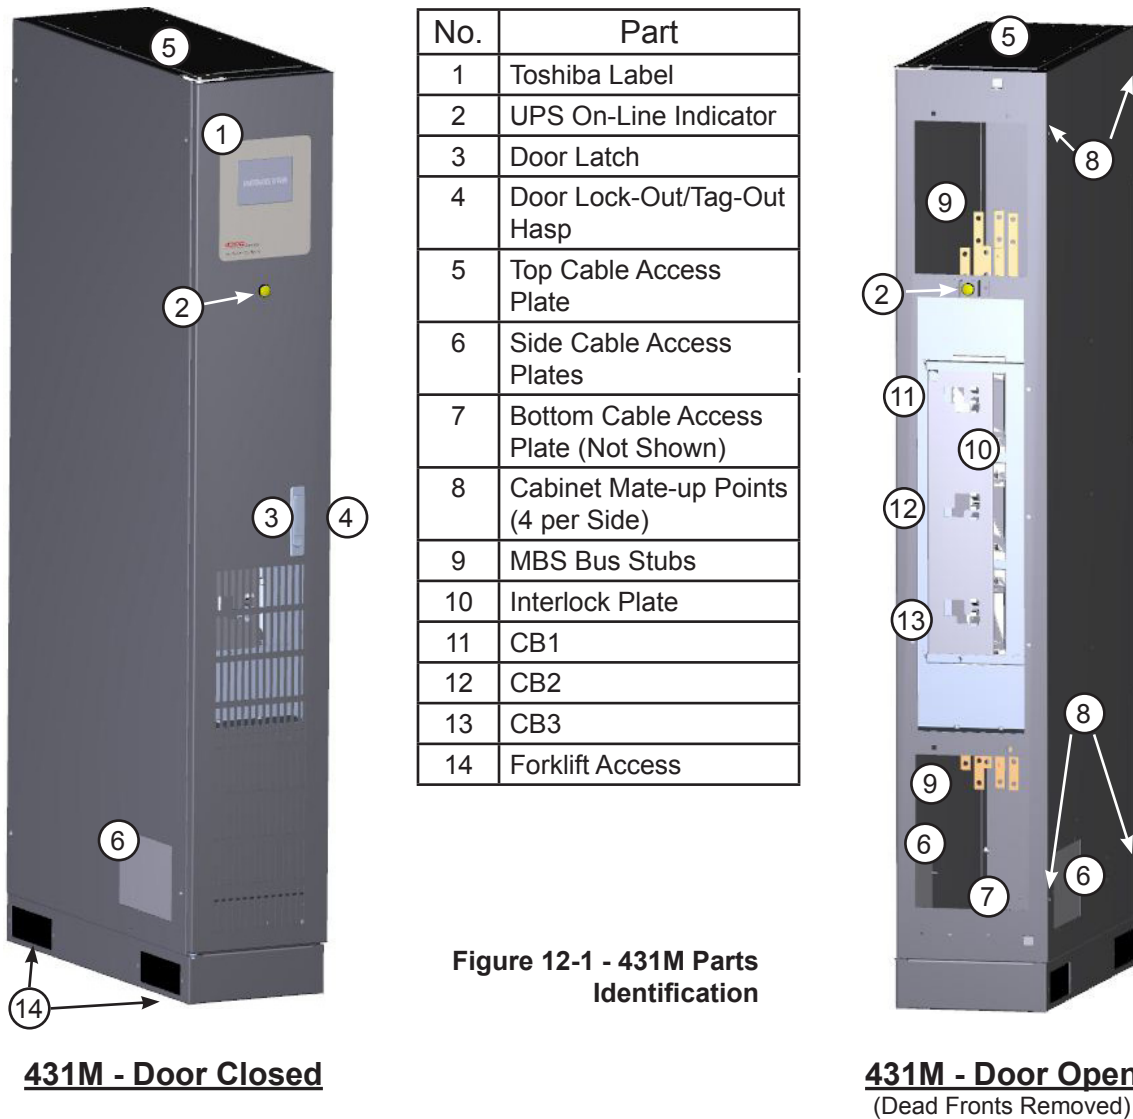
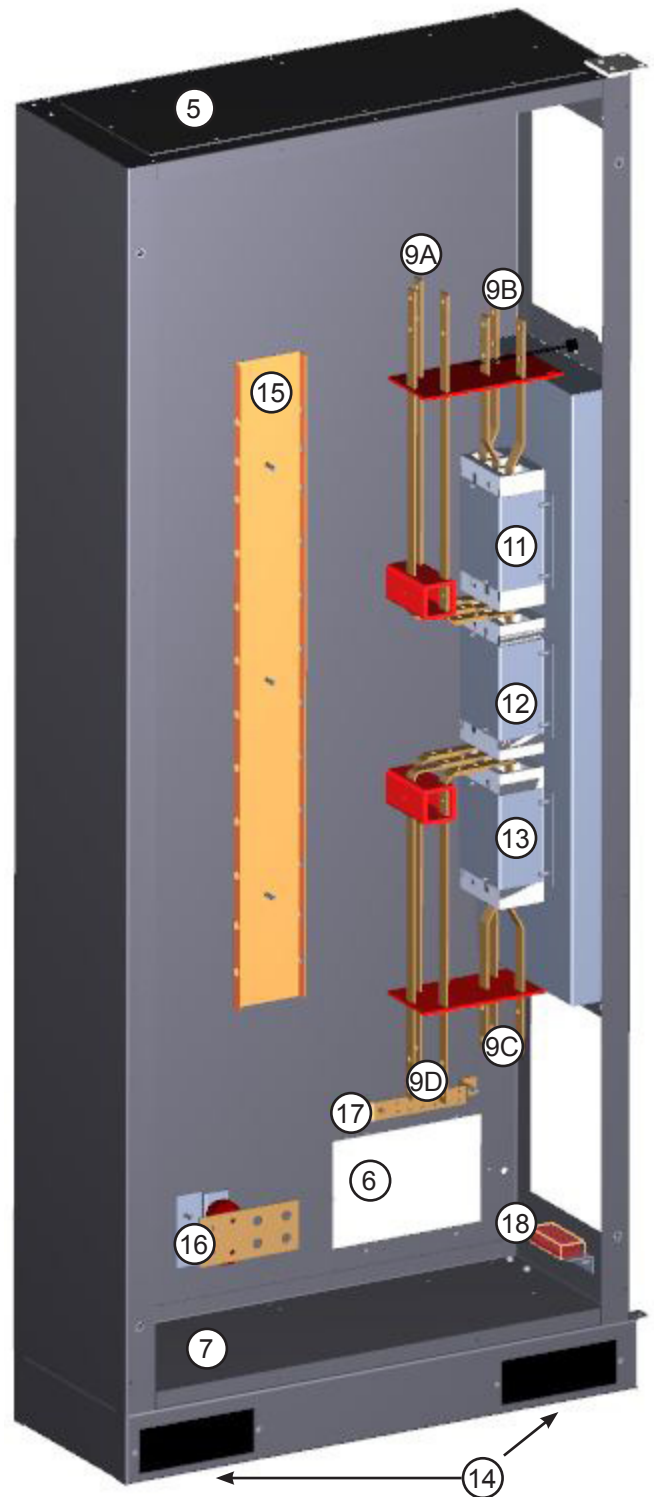
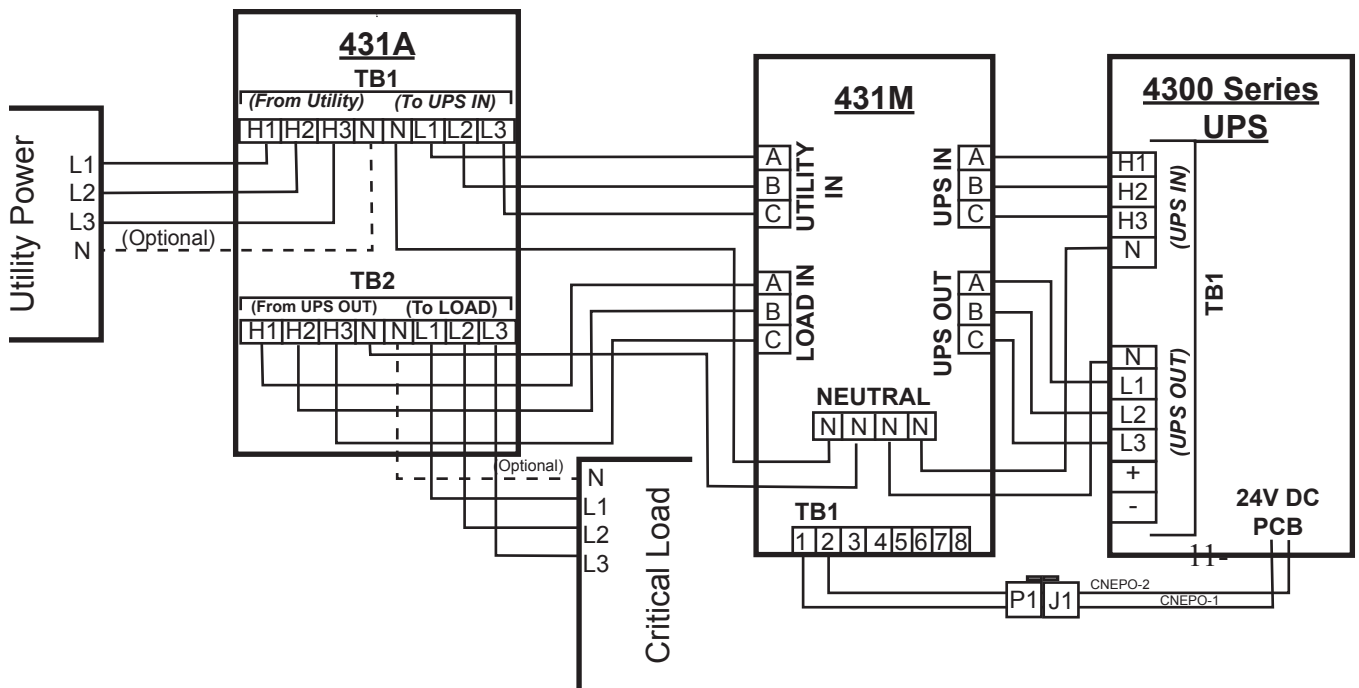

Figure 12-1 - 431M Parts Identification
Figure 12-2 - 431M - Internal Arrangement
Figure 12-7 - Power Cabling Between Auxiliary Cabinet, MBS, and UPS
Figure 12-1 and Figure 12-2 show the external and internal components of the 431M.
9. Run power cables from 431M bus stub terminals UTILITY IN to 431A TB1 - UPS IN terminals. (Fig. 12-7)
10. Run power cables from 431M bus stub terminals LOAD IN to 431A TB2 - UPS OUT terminals. (Fig. 12-7)
11. Run the appropriately sized power cables from 431A TB1 to the 431M From UTILITY (Figure 12-2 #9A), and 431A TB2 From UPS OUT (Figure 12-2 #9D), bus stubs per Figure 7.
12. Connect 431M UPS IN Bus Terminals (Figure 12-2 #9B) to UPS TB1 - UPS IN, per Figure 12-7.
13. Connect 431M UPS OUT Bus Terminals (Figure 12-2 #9C) to UPS TB1 - UPS OUT, per Figure 12-7.
14. Connect the Neutral cables to the 431M Neutral Bus stub, Figure 12-2 #16 and Figure 12-7.
15. Connect the Mechanical Interlock Solenoid power plug, TB1 P-1(Figure 12-2 #18) to the UPS 24V power terminal jack J1 in the UPS .
16. Connect the Ground wires (#2 AWG or better) to the ground bus, Figure 12-2 #17.